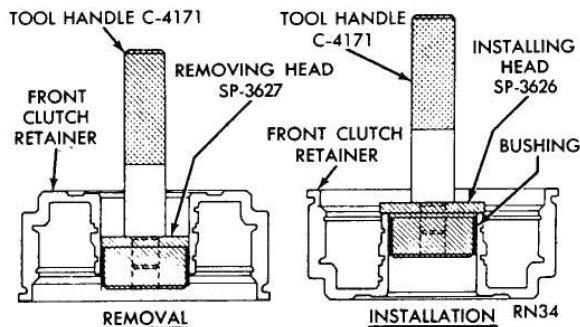

Fig. 20—Replace Front Clutch Retainer Bushing (A-904T and A-999)
- (1) Lay clutch retainer (open end down) on a clean, smooth surface and place removing head Tool SP-3627 in the bushing (Fig. 20). Install handle Tool C-4171 in removing head.
- (2) Drive bushing straight down and out of clutch retainer bore. Be careful not to cock tool in the bore.
- (3) Lay clutch retainer (open end up) on a clean, smooth surface. Slide a new bushing on installing head Tool SP-3626, and start them in clutch retainer bore.
- (4) Install handle in installing head. Drive bushing into clutch retainer until tool bottoms.
- (5) Thoroughly clean clutch retainer before assembly and installation.